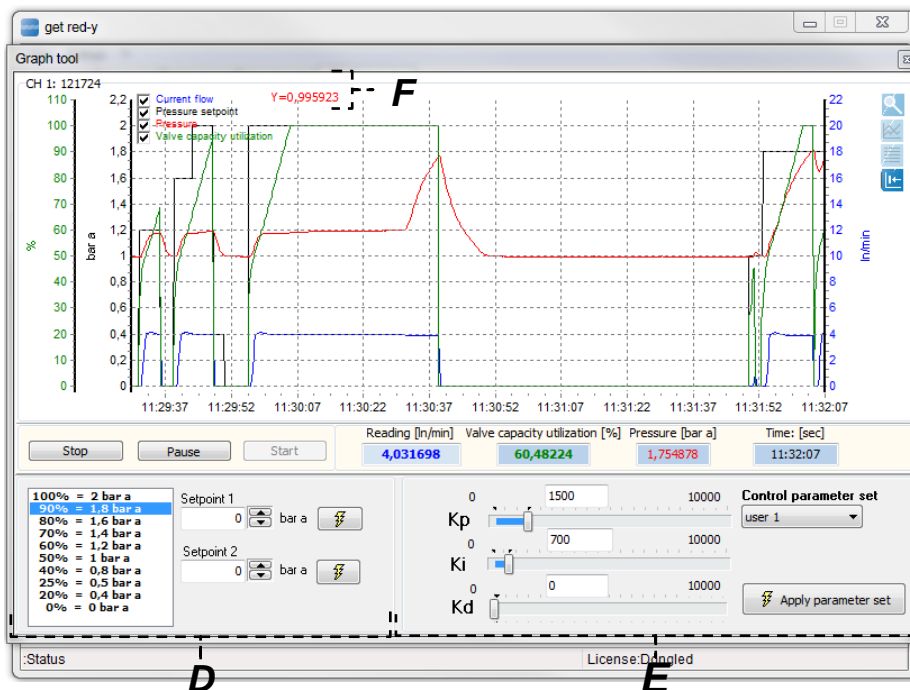

Figure 29: Graphic representation of the measurement value signals for providing the control parameter records in chronologically compressed form
-  The data is displayed as a graph (see Figure 28 and Figure 29).
-  Click the button in Item **d** to switch the image of the button and the measurement data is displayed in chronologically compressed form (see Figure 29), i.e. all data of the measurement value recording is shown in one diagram.